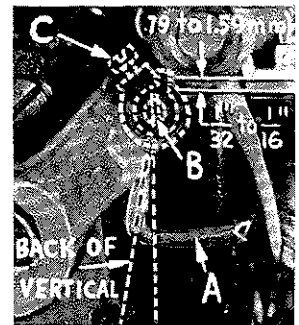

Fig. 8A
Insert upper spreader (A, Fig. 8A) in its holder. Screw (B) holds upper spreader in its holder, and permits it to be pushed in or out, or turned around its shank. Insert spreader holder into spreader shaft, if it is not already in place. Screw (C, Fig. 8A) on clamp collar holds spreader holder in the shaft, and allows holder to be rotated or adjusted laterally.
Preliminary Setting: When upper spreader is at the right end of its stroke, spreader holder should be set to position spreader shank slightly back of vertical (Fig. 8A). Top end of spreader shank should extend $\frac{1}{32}$ to $\frac{1}{16}$ inch (.79 to 1.59 mm) above the spreader holder for Style 39500 RM. The same is true of Style 39500 RR except the spreader holder should be set to position spreader shank approximately vertical. Top end of spreader shank should extend $\frac{1}{16}$ to $\frac{3}{32}$ inch (1.59 to 2.38 mm) above the spreader holder for Style 39500 RR.